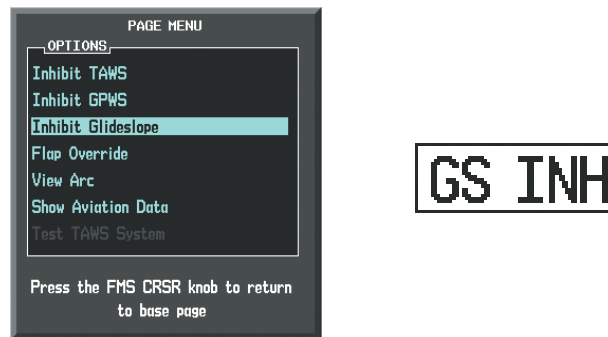

Figure 6-148 TAWS-A Page Menu and Glideslope Alerting Inhibited Annunciation
- 1) Press the **MENU** Key. (Figure 6-148)